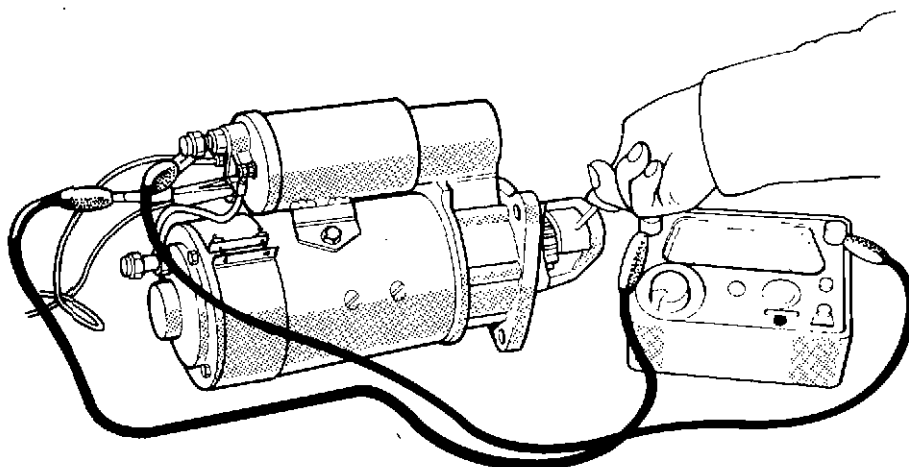

Fig. 6 Testing operating sequence
- 36 Test the solenoid switch for the correct operating sequence by placing the Special Tool, Part No. GO 14003, on the pinion shaft to retain the pinion in the rest position (fig. 6). Connect an avometer to terminals 2 and 3, and a 24 volt supply to terminals 1 and 3. The avometer should give no reading on the dial.